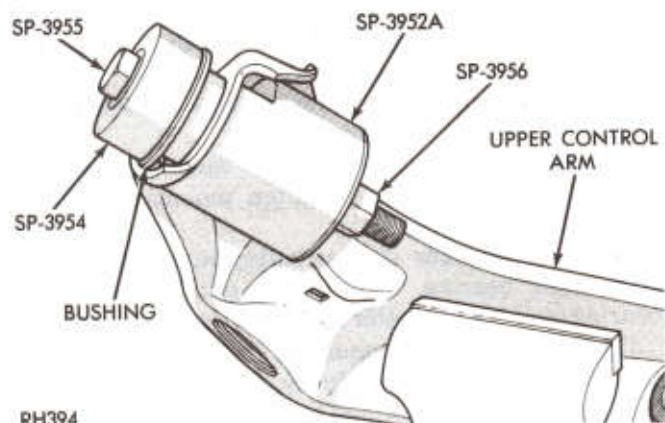

Fig. 11—Installing Upper Control Arm Bushing
- (1) Position flange end of new bushing in Tool C-3962, support control arm squarely, and press bushings into control arm (from outside) until tapered portion seats on the arm (Fig. 11).